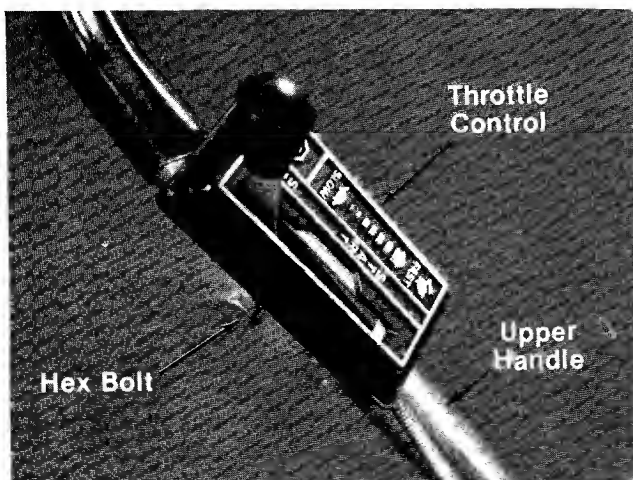

FIGURE 3.
4. Place the throttle control in position on right side of upper handle. Secure with hex bolt and lock nut. See figure 3.